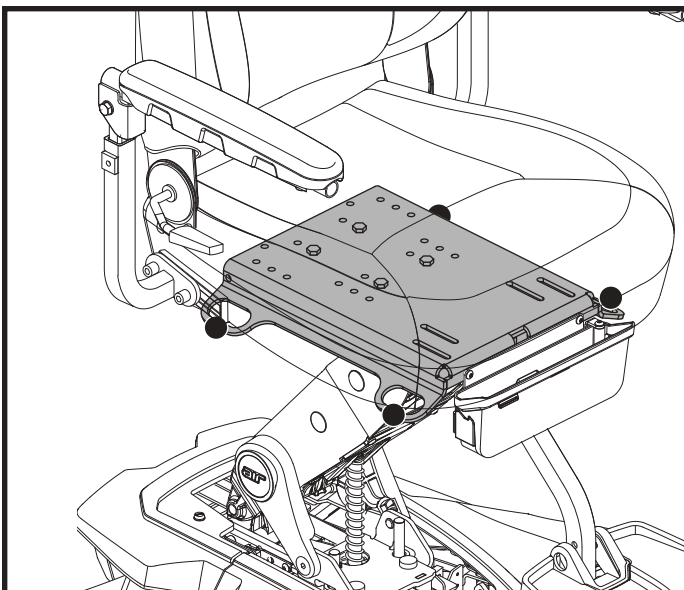

Figure 6. Transit Securement Brackets
- Attach the four tie-down straps to only designated, labeled transit securement points indicated by anchor symbols on the power chair. **See figures 6 and 7.** Tighten the straps to sufficiently remove all slack.